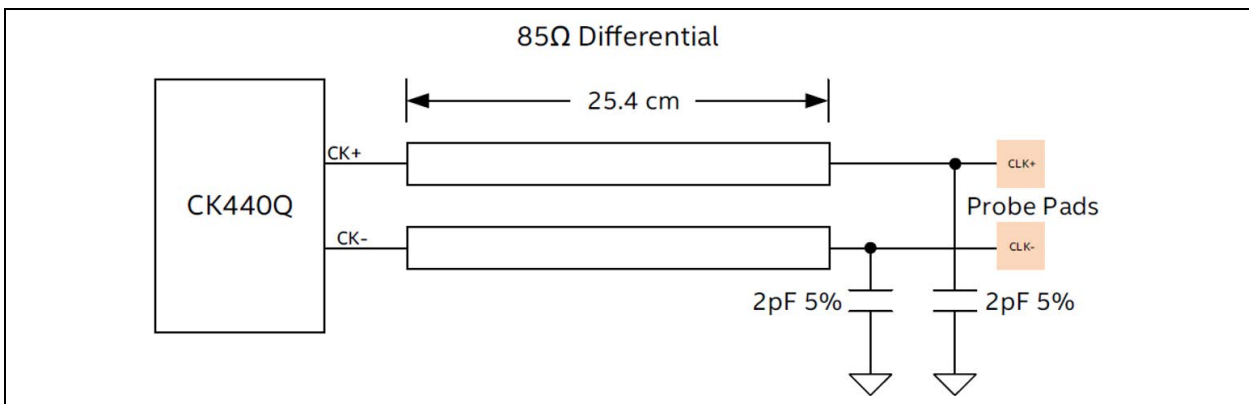

FIGURE 4-5: AC Test Load (in Accordance with CK440Q Specification).
- Note 1:** Measured into Figure 4-5 AC test load.
Note 1: Measured into AC test load. See Figure 4-5.